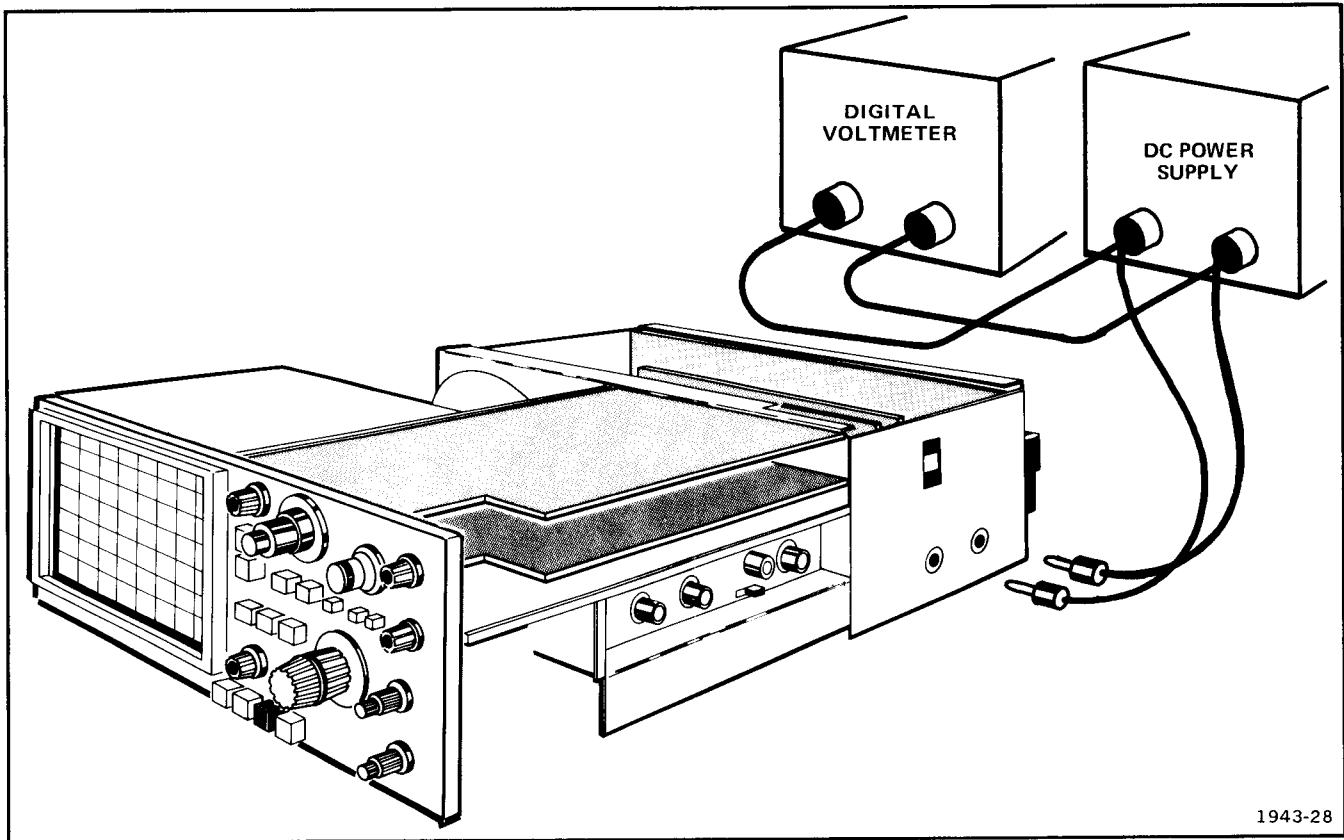

Fig. 6-2. Equipment setup.
b. Connect dc power supply and digital voltmeter to 335 as shown in Fig. 6-2.